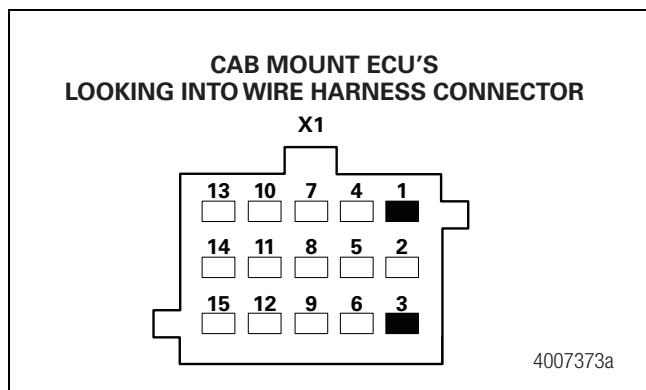
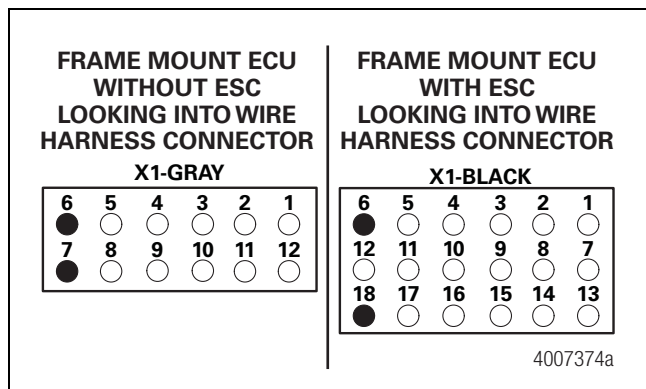
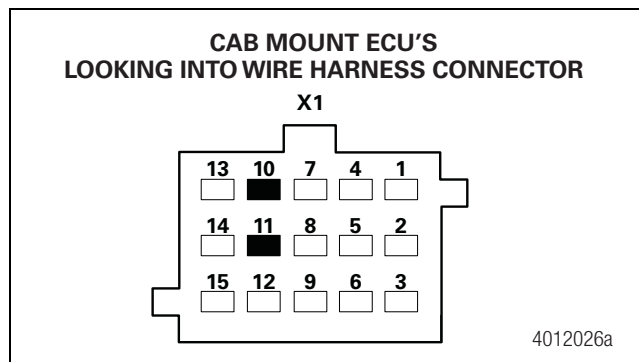
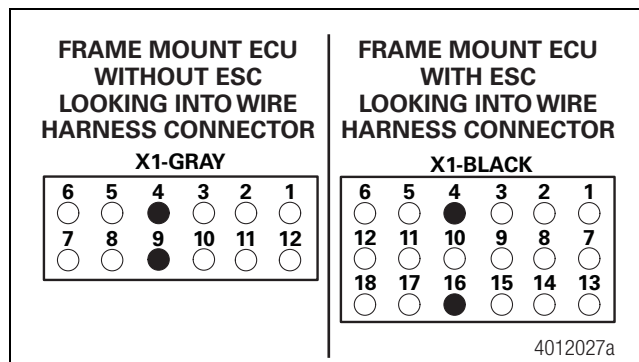

Figure 3.46
Figure 3.47
Figure 3.48
Figure 3.49
- For resistance measurements, the vehicle battery must be disconnected and the ignition must be OFF. Figure 3.46, Figure 3.47, Figure 3.48 and Figure 3.49.